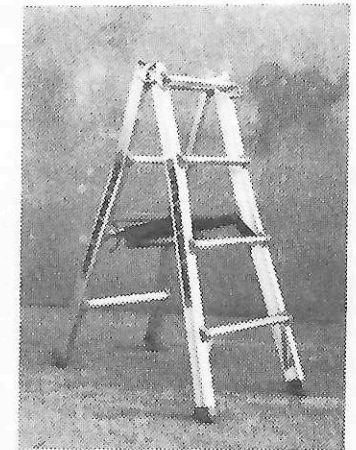

Figure C-7
7. Insert work platform between outer assemblies on the third rung down of each assembly. The wire-formed end of the work platform should surround the outer rung turned to the inside of the trestle. (FIGURE C-7).